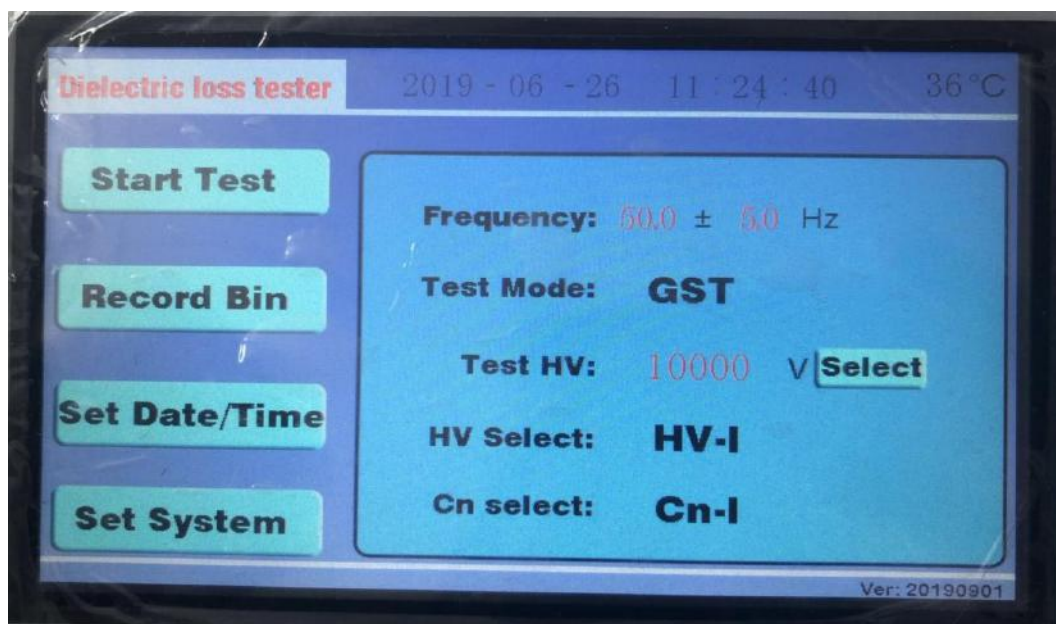

Figure 10 Start-up interface
1. Turn on the power switch and conduct self-check. If the self-check is good, the LCD will display the starting interface in FIG. 10.